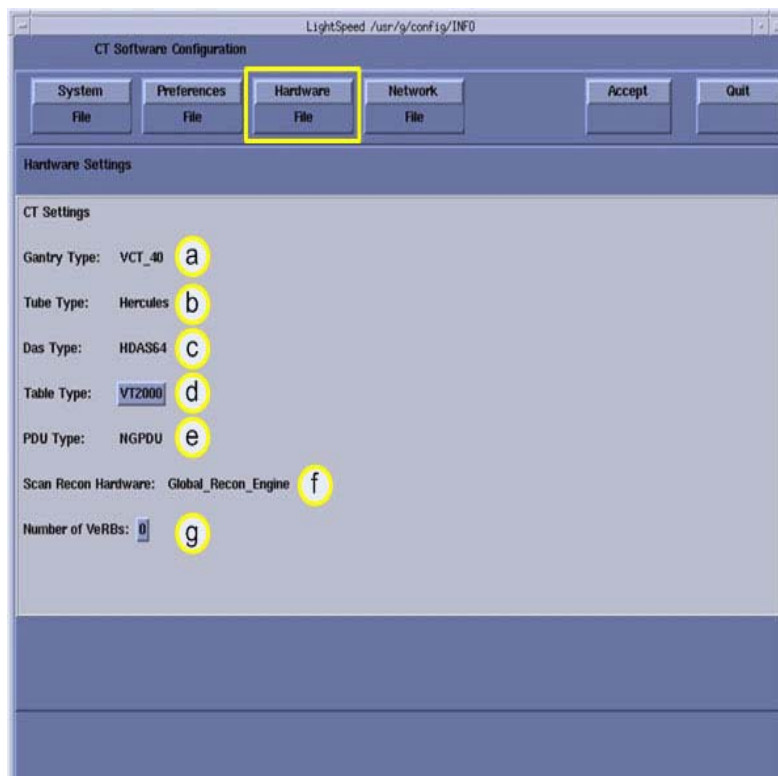
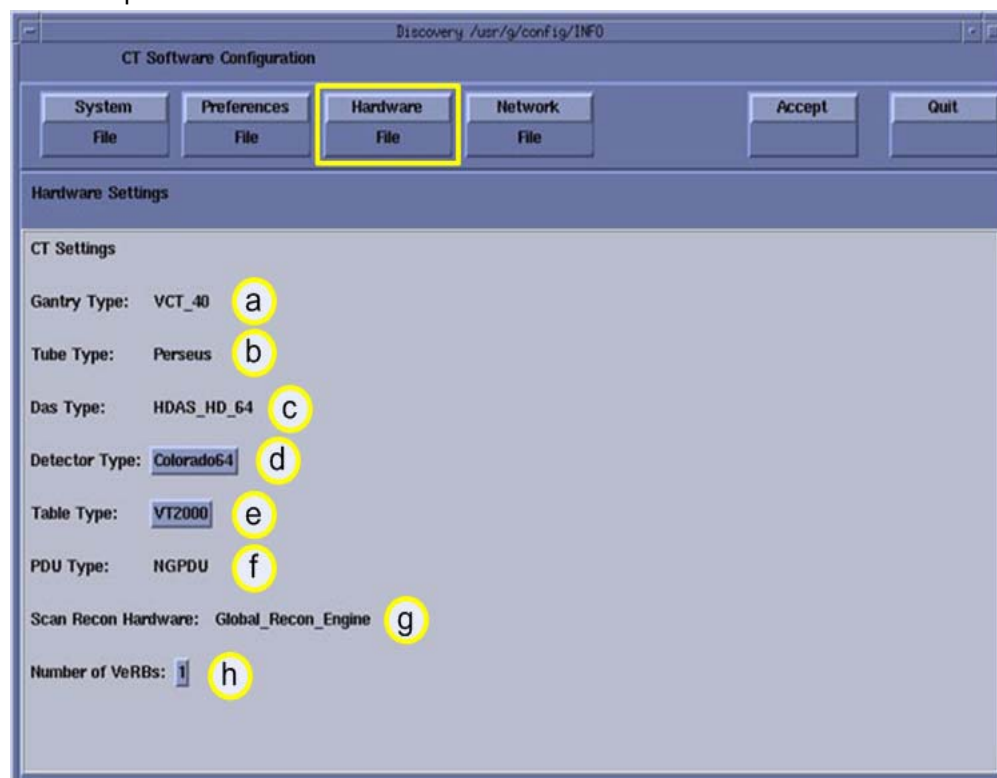

Figure 6-7 VCT Hardware Settings VCT Only
Figure 6-8 Hardware Settings Screen HD Only
- 8.) Click the **HARDWARE** button to display the Hardware Settings Screen for VCT see Figure 6-7 for CT750 HD see Figure 6-8